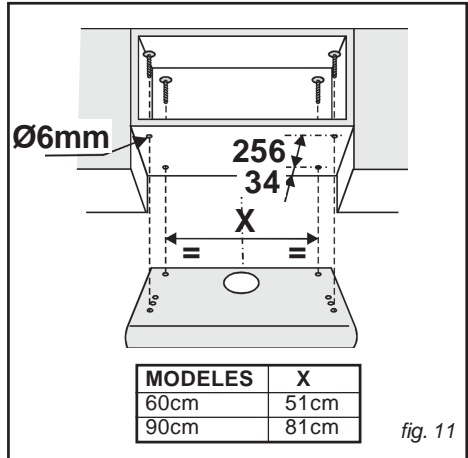

fig. 11
- Drill 4 holes in the kitchen cabinet, as per the measurements given in Fig. 11.
- Take 2 of the supplied screws (Fig. 11) and align them in the top dowels, but do not screw them in completely.